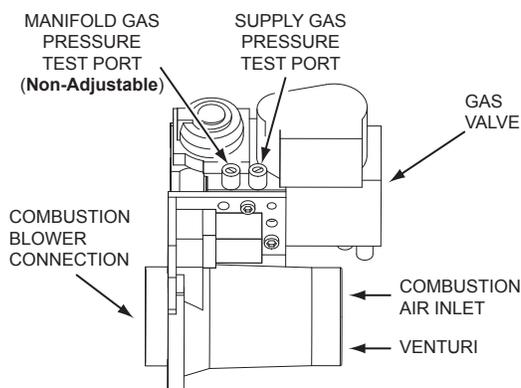
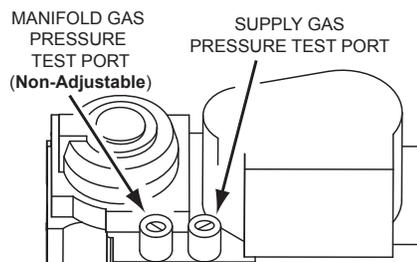

Figure 60. Gas Valve/Venturi Assembly Top View
Figure 61. Gas Valve Top Detail View
4. Wait five (5) minutes for any residual gas to clear.
5. Connect the manometer to the supply gas pressure port on the gas valve. See *Figure 60* (page 53) and *Figure 61* (page 53).
Water heaters covered by this manual have test ports for supply and manifold gas pressure readings on the gas valve. Using a small flat tip pocket screw driver - open the needle valve inside the supply gas pressure test port one full turn only; turn the needle valve screw counter-clockwise to open the valve. Slide the manometer sensing tube over the top of the test port. See *Figure 60* (page 53) and *Figure 61* (page 53).